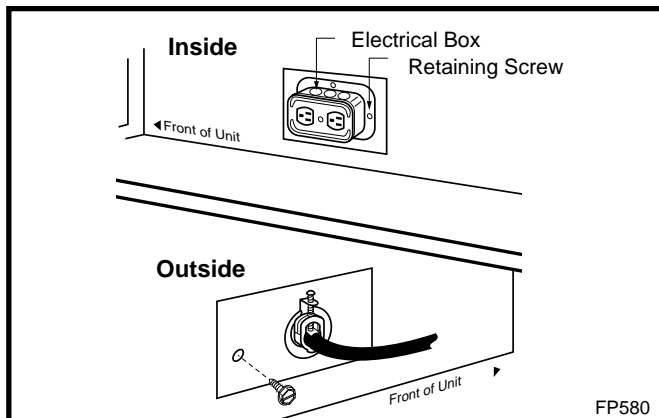

Fig. 9 EB-1 receptacle.
1. Unscrew the retaining screw from the EB-1 base plate (Fig. 9), and remove the EB-1 assembly from the fireplace.
4. Feed the supply line in from the outside through the cable clamp. (Fig. 9)